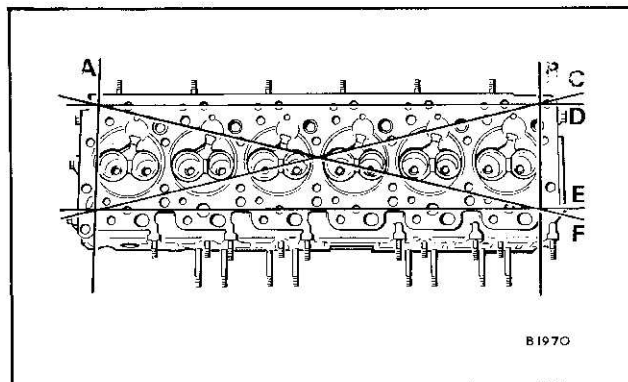

Fig. 4
3. Check cylinder head surface for distortion, Fig. 4. If distortion of A and B exceeds 0,1 mm (0.004 in) and that of C, D, E and F, 0,25 mm (0.010 in) the head should be renewed.